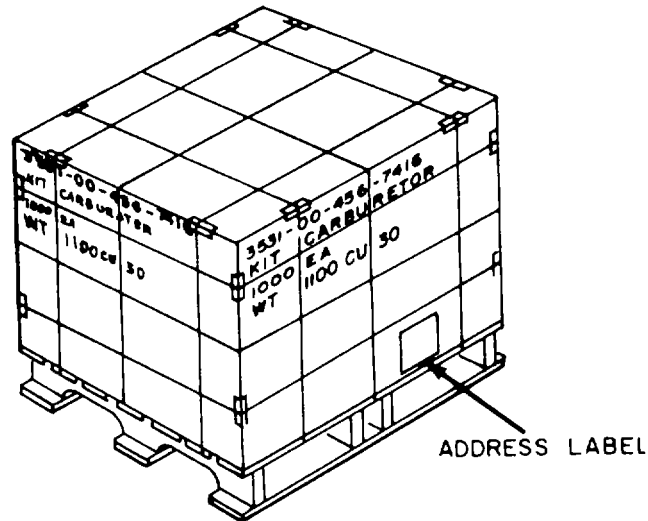

Figure E-9. Identification and Address Markings - Palletized Loads.
l. Palletized Unit Loads. Mark individual containers comprising the palletized load, with the markings required in paragraph E-3. Build the load on tile pallet so that the markings on the individual containers do not show on two adjacent sides of the load. For palletized loads with smooth surfaces, stencil the identification markings on two surfaces of the load; extend the markings from one container to another, if necessary (fig. E-9). If the palletized load does not provide smooth marking surfaces, apply the markings on weather-resistant panels or use labels or tags on two adjacent sides. Gross weight for palletized loads shall include the weight of the pallet.
- (3) Project code: When specified.
- (4) Consignor: Coded and in the clear.
- (5) Transportation priority.
- (6) POE/APOE: Coded and in the clear.
- (7) POD/APOD: Coded and in the clear.
- (8) Consignee: Coded and in the clear.
- (9) Piece number.
- (10) Total pieces.
- (11) Weight: Gross weight of each piece, container, MILVAN etc.
- (12) Cube: Each piece.
d. Palletized Unit Loads. Provided that a smooth surface is available, apply the address to the lower one-third of an identification-marked surface of the load (fig. E-9). If the load does not provide a smooth surface, place the label on a weather-resistant panel or place a tag on any suitable space of an identification marked surface.